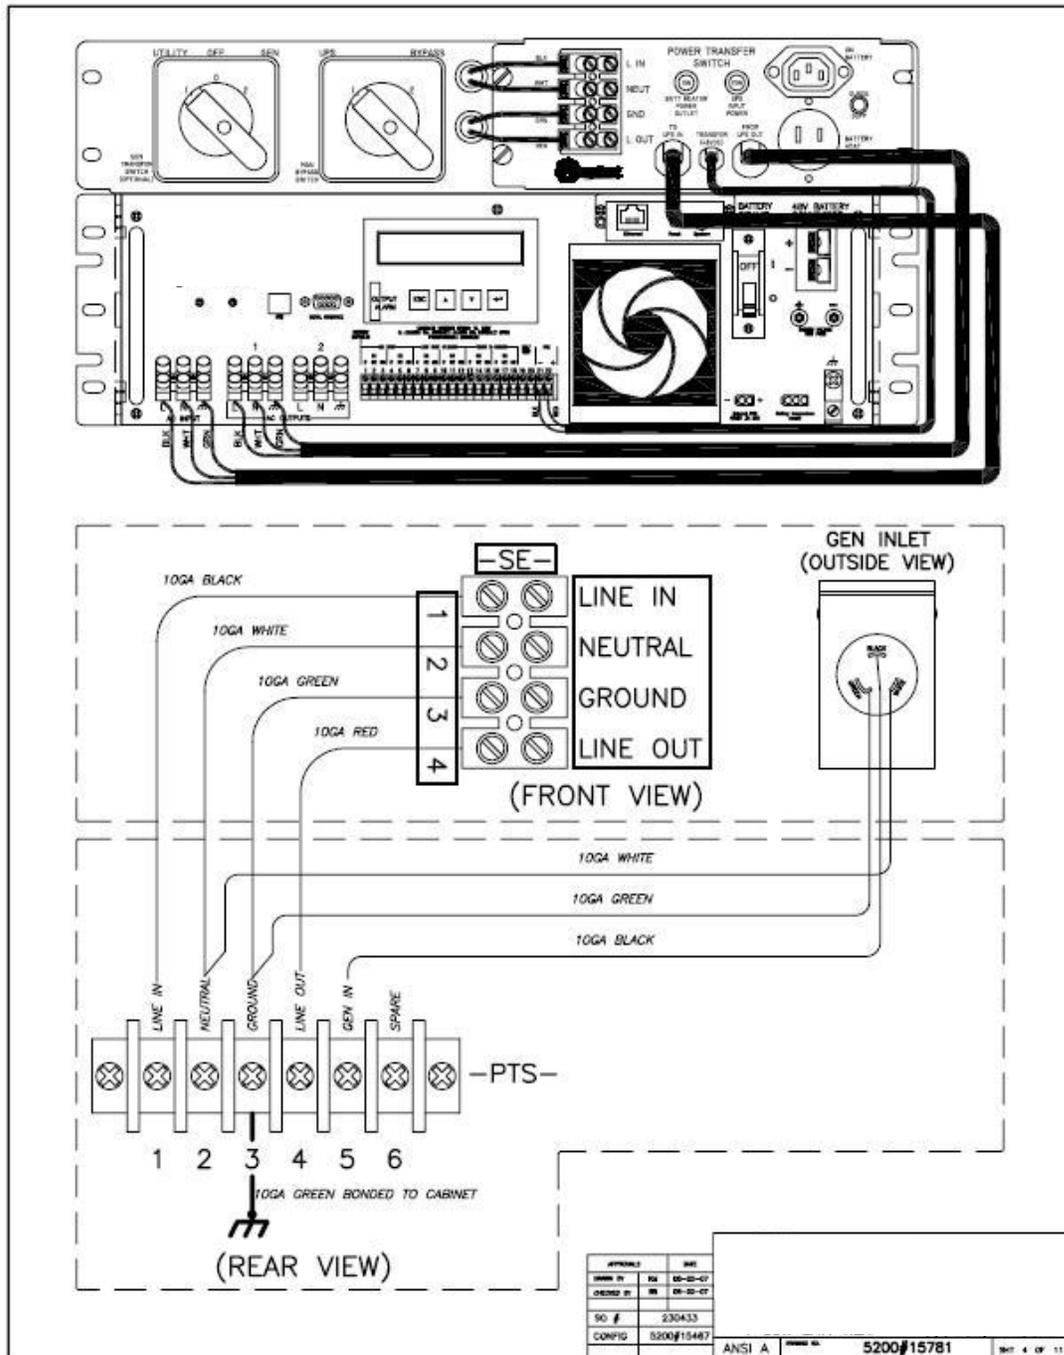

Figure 4
Purpose: Describes how to wire the System (Figure 4 & 5).
- Connect the external AC power (Black) wire that will be connected to the power source to “L IN” on the MBS/PTS rear terminal strip (see Figure 4).